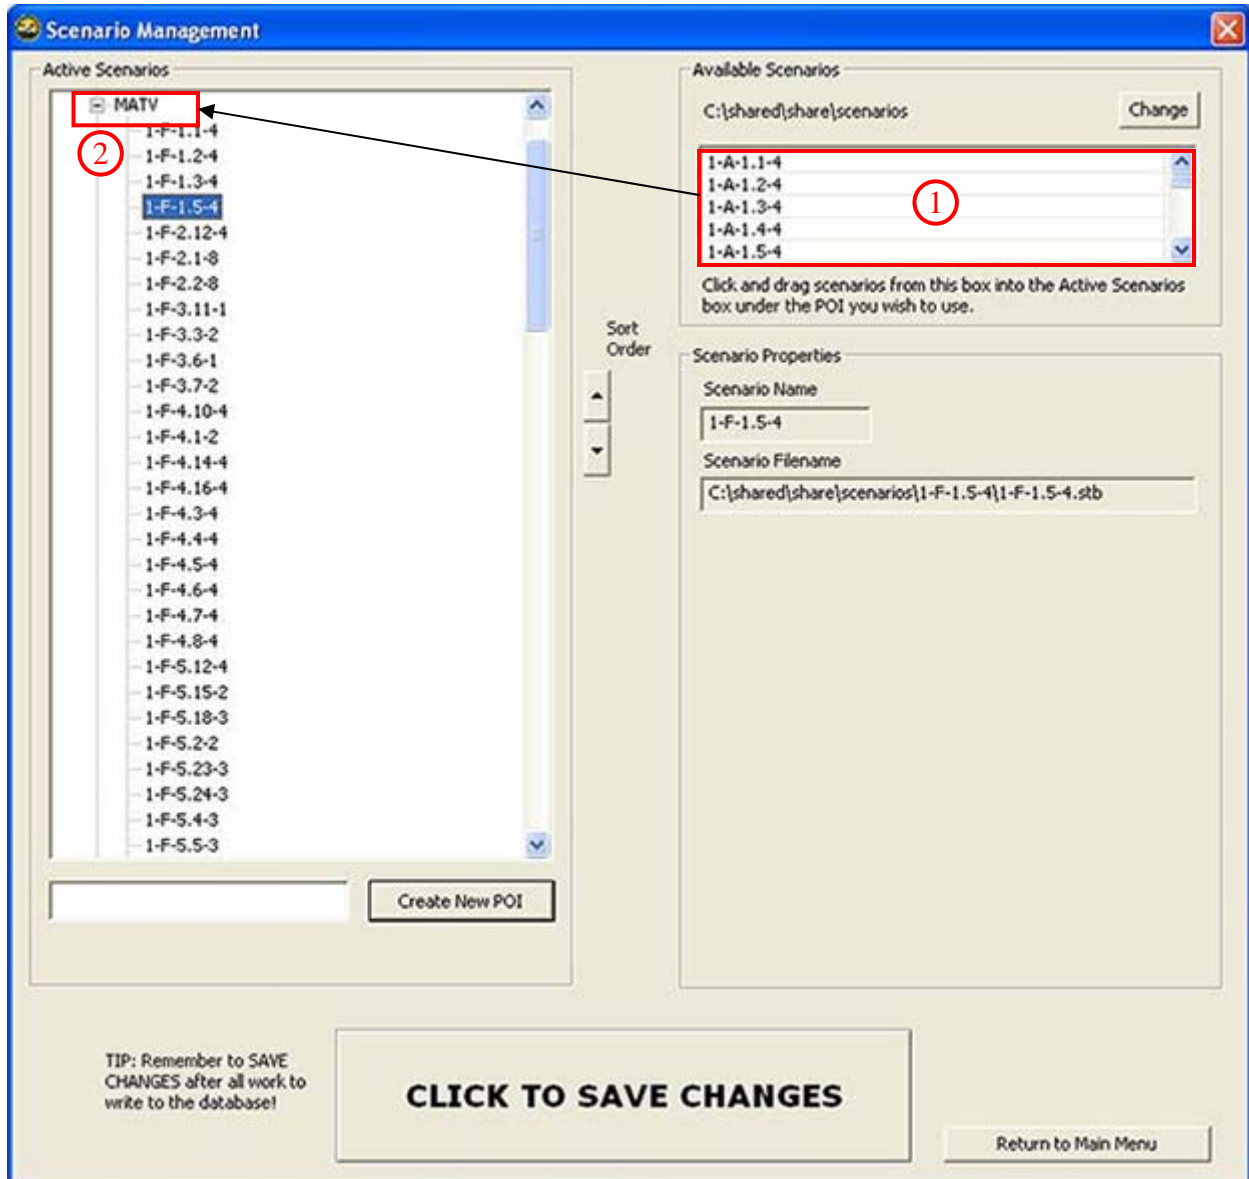

Figure 72. Scenario Management - Adding Scenarios to POIs
1. From the Available Scenarios group (Figure 72), click and drag the desired scenarios to the main folder of the POI just created. [SHIFT] click and [CTRL] click allow selection of multiple scenarios. If the desired scenarios are not displayed, click the [CHANGE] button to navigate to the folder in which they reside.